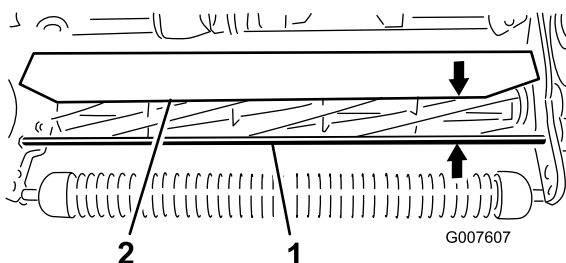

Figure 50
1. Measure the distance from top of the front support rod to the front lip of the shield at each end of the cutting unit (Figure 50).